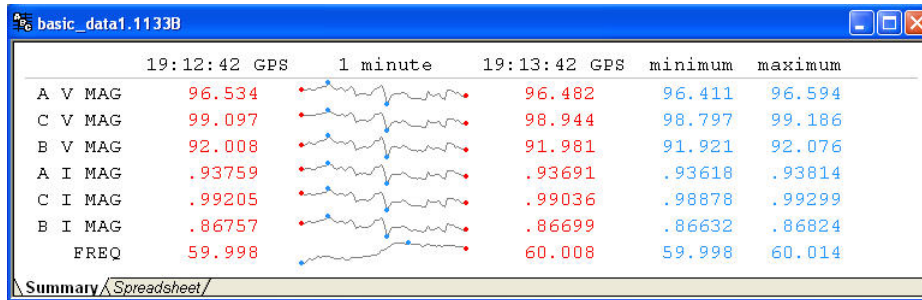

Figure 9.2: Basic Data Summary Screen
7. The downloaded basic data records from the “PSCSV Event Basic” line in Figure 8.9 should look very similar to those in Figures 9.2 and 9.3.
Basic Data includes all measured voltages, currents, sequence components, power values, flicker, frequency and time deviation values. Basic Data are synchronized to the GNSS, sent real time at a rate of once-per-second and simultaneously saved in a file of choice. See Figures 9.2 and 9.3.